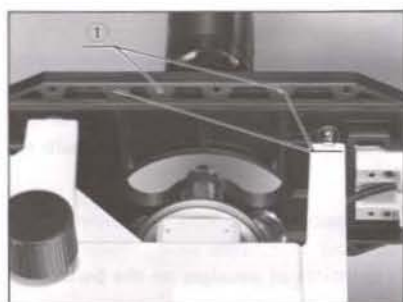

Fig. 9
Screw the mechanical stage to the right or left side of the plain stage with clamping screws ① provided at the underside of the stage. Tighten with a coin. (Fig. 9)